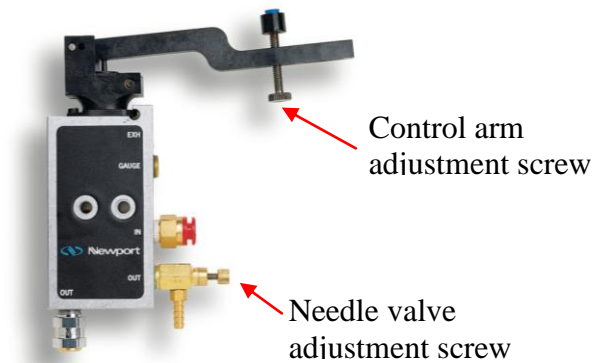

Figure 16 Leveling valve diagram
8. Adjust the control arm adjustment screw of each valve (figure 16) as required to obtain alignment. When all isolators are adjusted, re-check
3. Be sure that the needle valves adjustment screws are not closed completely. See figure 16.